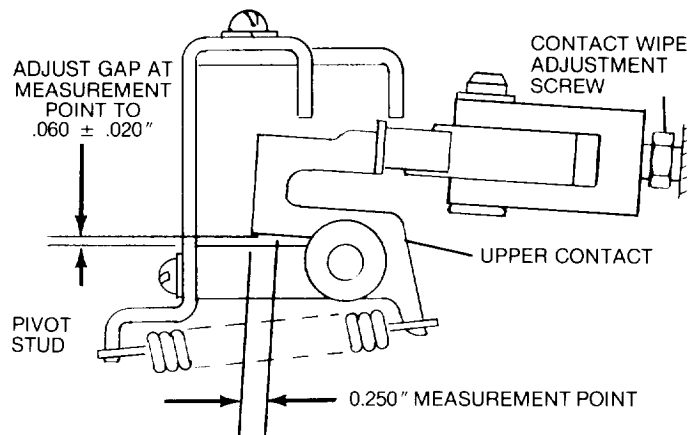

FIG. 45 — WIPE ADJUSTMENT 800A EXCEPT
3. Select one pole and, using a flat or wire feeler gage, measure the gap between the top contact and its pivot stud as shown in Fig. 45. As necessary, adjust the gap to  $0.060 \pm 0.020$  inch by turning the wipe adjustment nut shown in Fig. 45 & 46.
The stationary contacts are held in place by the contact springs which pivot the contacts against the contact stop, refer to Fig. 45. To replace contacts: